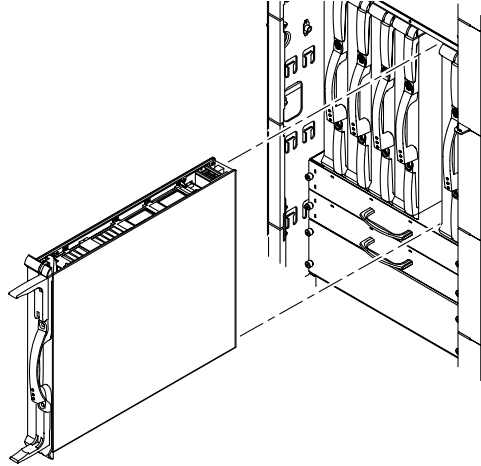

FIGURE 8-7 Removing or Replacing a CPU/Memory Board—Sun Fire 6800 System
- For the Sun Fire 6800/4810/4800 systems, remove the board from the card cage by holding the handle and grasping the bottom rail with your other hand. Slide the board along the track until the board is out of the card cage, being careful not to touch neighboring boards (FIGURE 8-7).